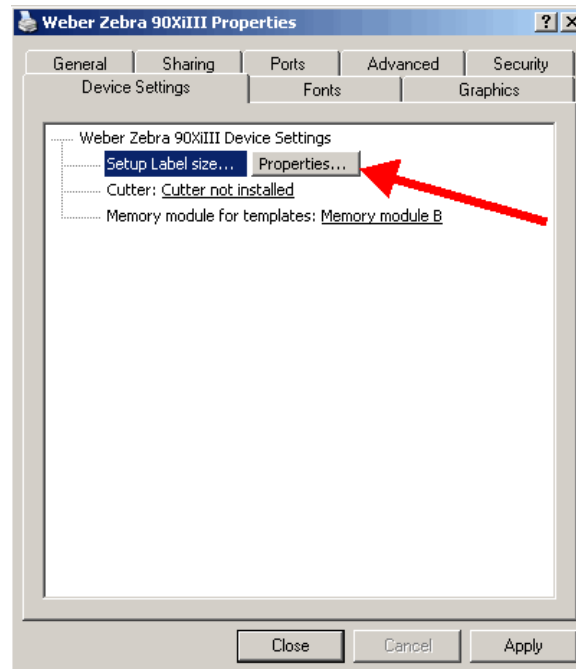

Figure 3-21
3.3.6. Click [Properties] on the *Setup Label Size* option. (Figure 3-21)